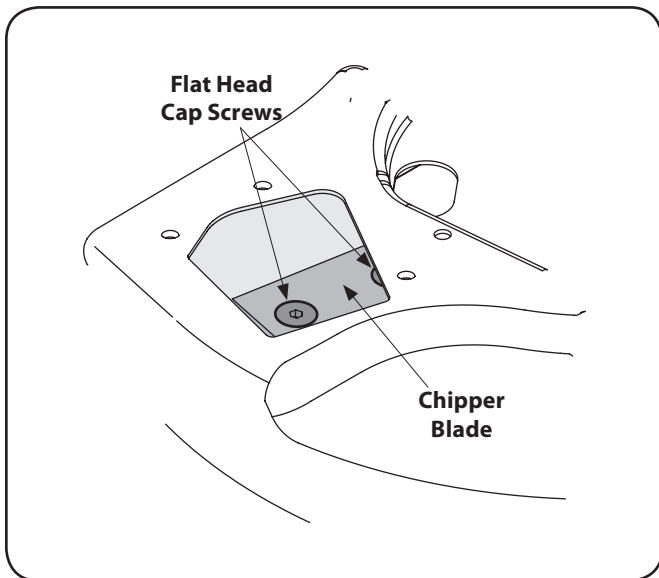

Figure 7-5
- Using a 3/16" allen wrench, remove the flat head cap screws that hold the chipper blade to the impeller. These screws are accessible through the opening created when the chipper chute was removed earlier. See Figure 7-5.